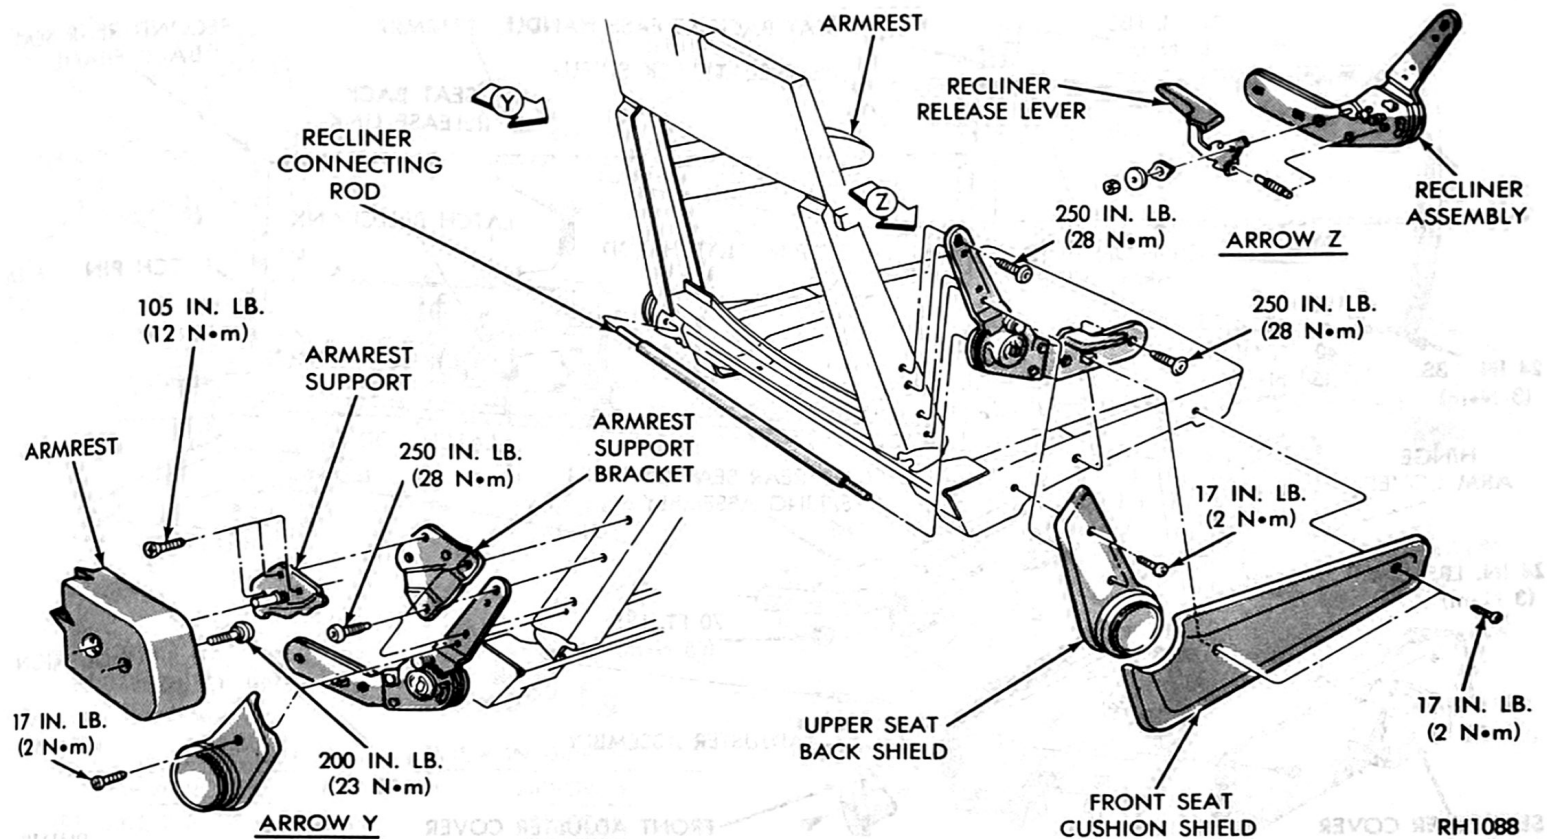

Fig. 5—Front Seat Back Release Mechanism
- (1) Remove the seat from the adjuster assembly.
- (2) Remove the plastic covers.
- (3) Lift armrest to a position midway between full up and full down; Remove the armrest.
- (4) Remove the armrest support.
- (5) Detrim the seat cushion and back as necessary to allow access to the release mechanism.
- (6) Remove the armrest support bracket.
- (7) Remove recliner assembly (Fig. 5).
- (8) Reverse this procedure to install.